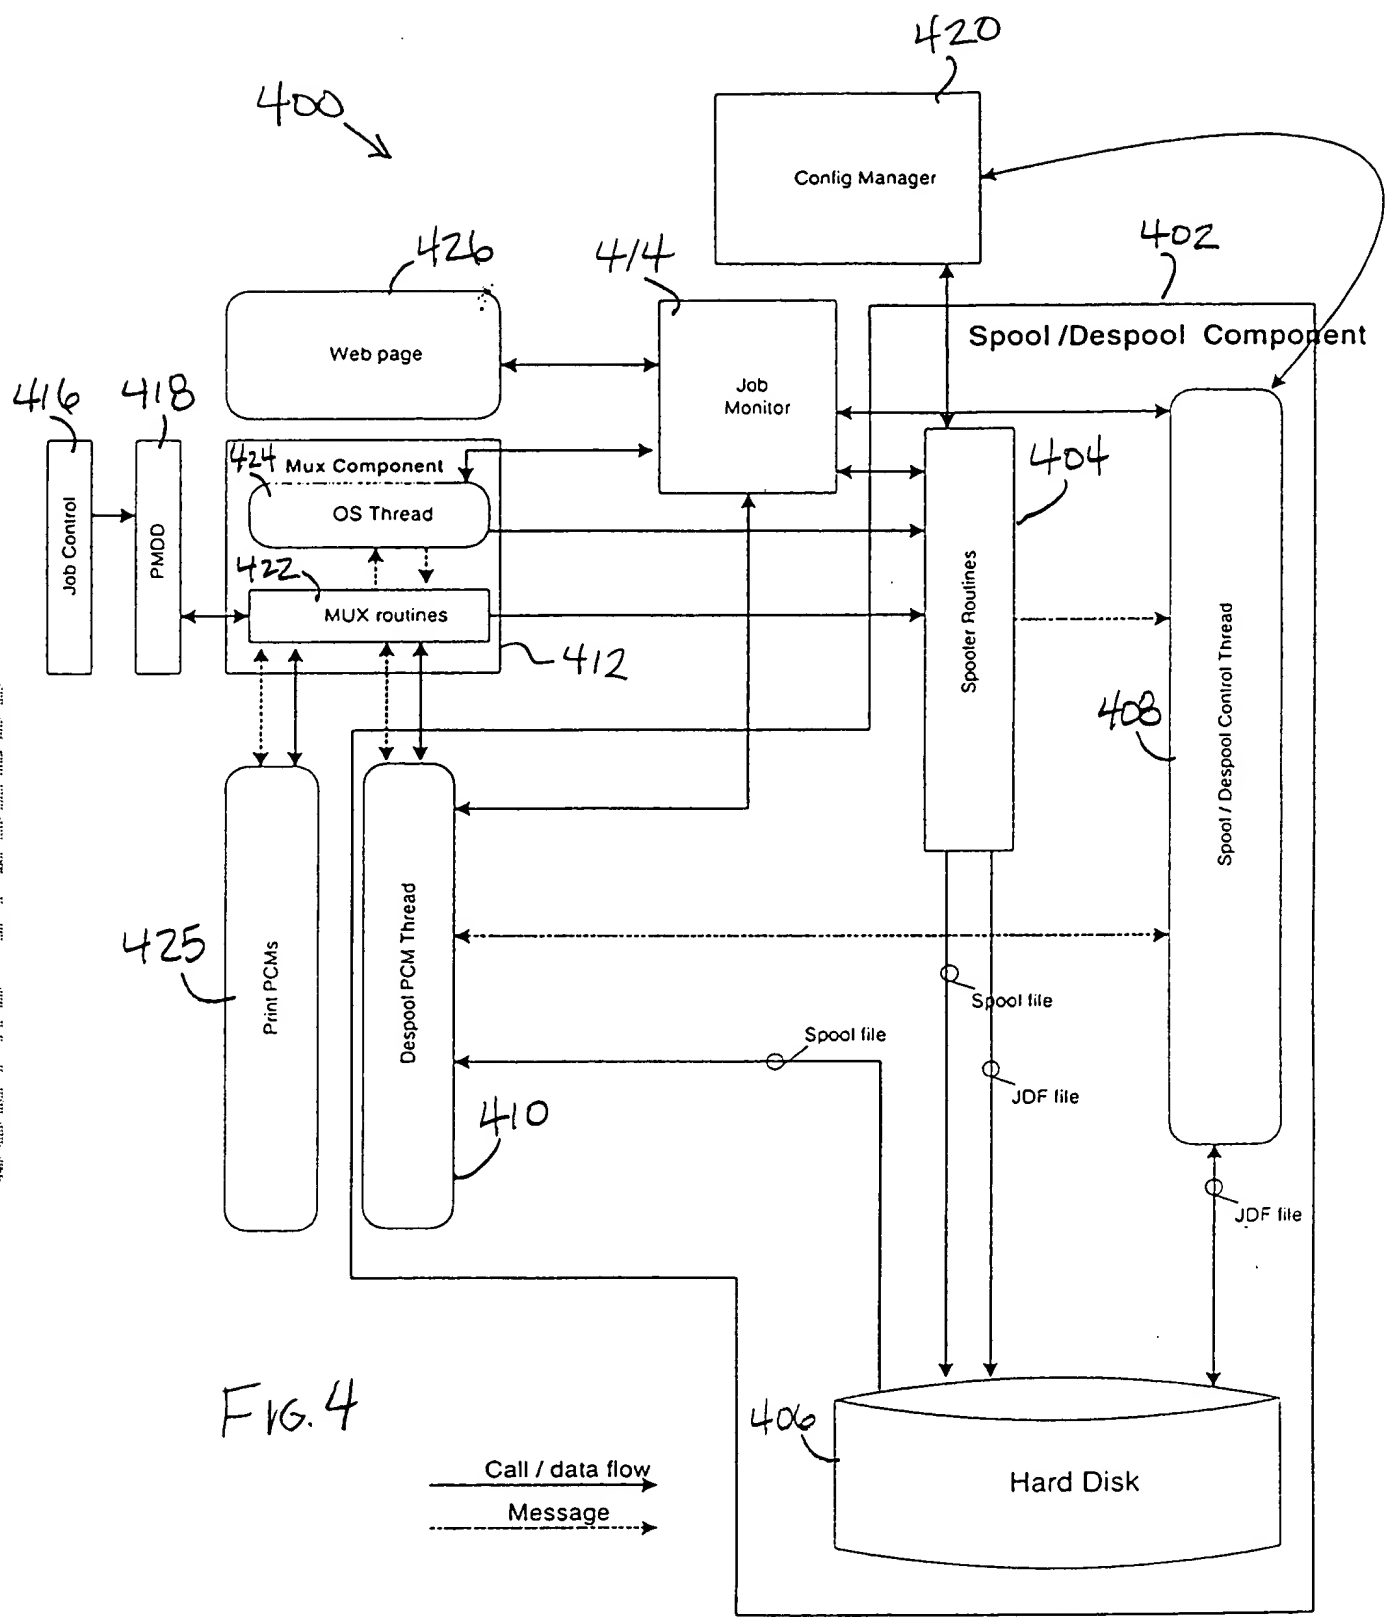

FIG. 4
FIG. 4 is a block diagram of a system architecture for a print spooling and despooling system. The system includes a Job Control (416) and a PMDD (418) which interface with a Mux Component (424) containing an OS Thread (424) and MUX routines (422). The Mux Component is connected to a Web page (426) and a Job Monitor (414). The Job Monitor is connected to a Config Manager (420) and a Spool/Despool Component (402). The Spool/Despool Component contains Spooler Routines (404) and a Spool/Despool Control Thread (408). The Spooler Routines are connected to a Hard Disk (406) via Spool files and JDF files. The Spool/Despool Control Thread is connected to the Hard Disk via JDF files. The Mux Component is also connected to Print PCs (425) and a Despool PCM Thread (410). The Despool PCM Thread is connected to the Hard Disk via Spool files. The system is labeled 400.